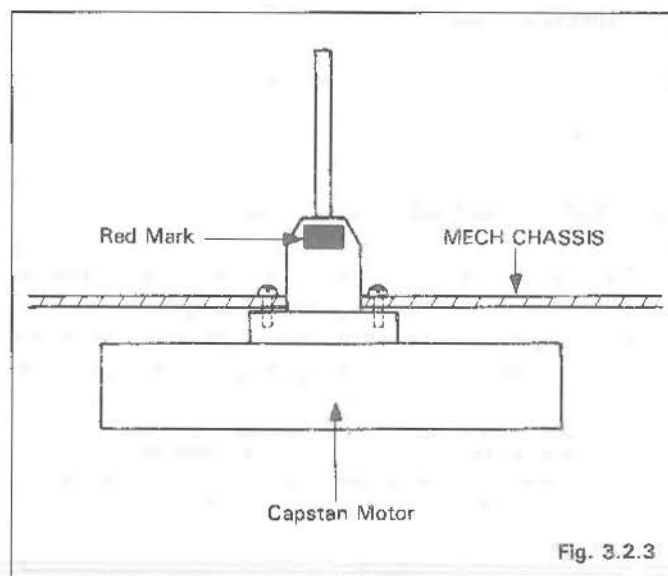

Fig. 3.2.3
**Note:** Only Capstan Motors with red marks are supplied for servicing. (Refer to Fig. 3.2.3)